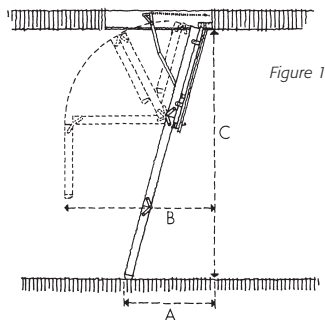

Figure 1
Wear gloves when removing insulation material. Check that the area selected for positioning the ladder is unencumbered by electrical wiring, water pipes, heating/cooling pipes, etc. If necessary, get a qualified craftsman to remove such encumbrances. Make sure that there is sufficient clearance (distance A) for the ladder to rest on the floor. Make sure that there is sufficient space for the ladder to fold out to its full length (B) (see figure 1). For two-section models, make sure that there is sufficient swing space.